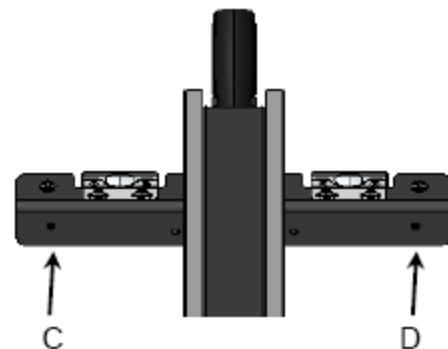

Fig. 12
2. If the fence is not parallel, it can be adjusted by using an Allen key to turn one or both of the screws C or D Fig. 12. Do this slowly, just an eighth to a quarter turn at a time, or you will quickly overshoot the desired adjustment.